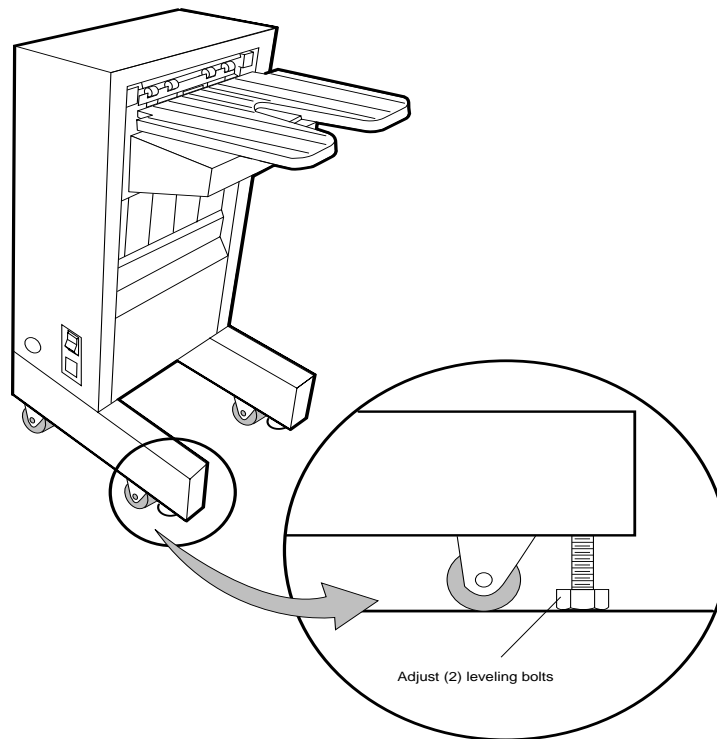

Figure 4-22 Raising Leveling Bolts
9. Raise the four leveling bolts, as shown in Figure 4-22.